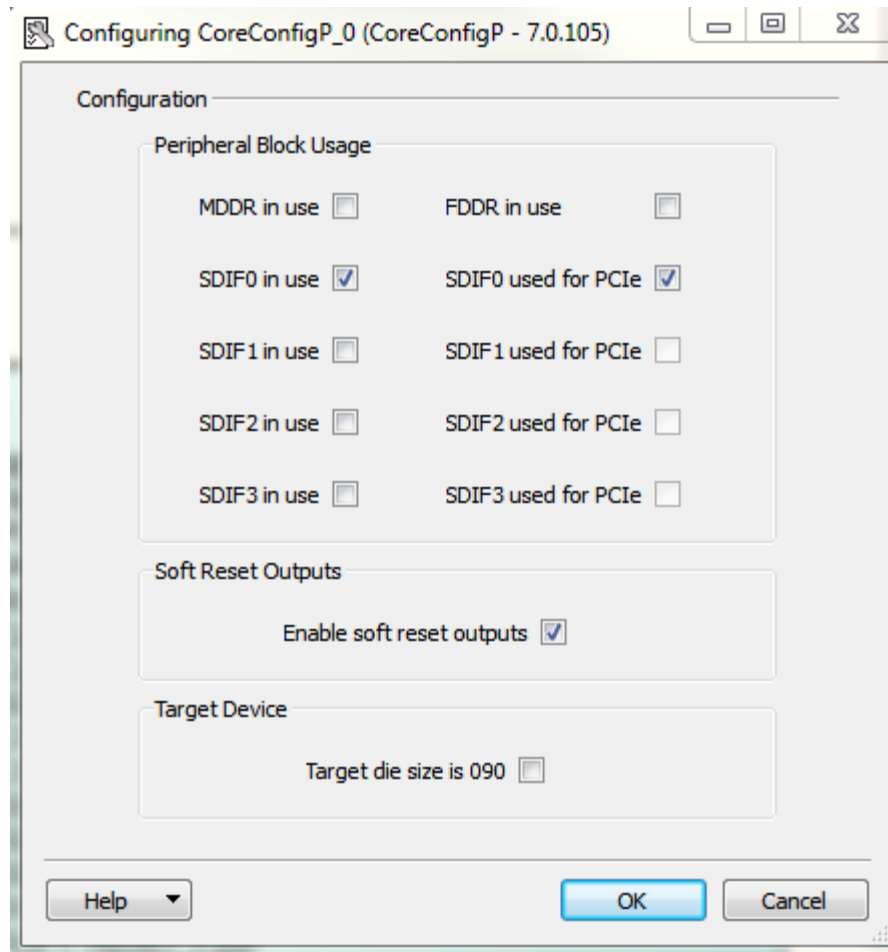

Figure 21 • CoreConfigP Dialog Box
3. Check the appropriate checkboxes as shown in the figure below (Figure 21).